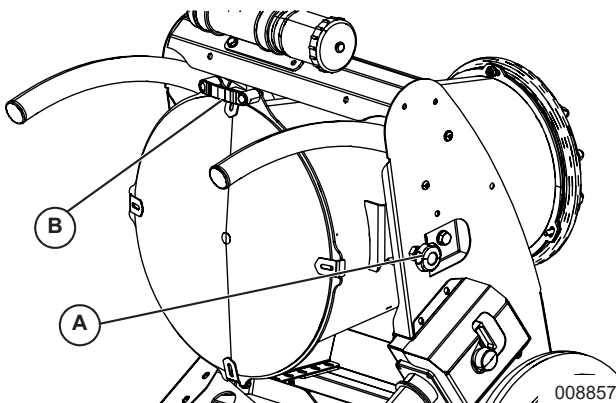

Figure 3-5. Adjusting Jet Angle
1. See Figure 3-5. Pull tilting blower knob (A).
2. Use handle (B) to tilt blower to desired angle.